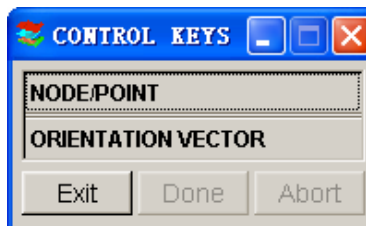

Figure 5.3.15 Control Keys
- If NODE/POINT is selected, a new dialog window will be displayed as in Figure 5.3.15. This window prompts the user to select the appropriate NODES/POINTS and also provides an option to define the orientation vector.